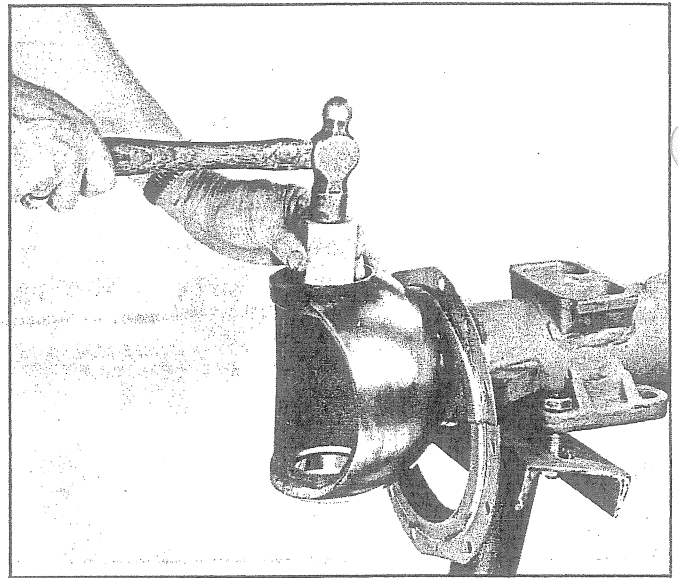
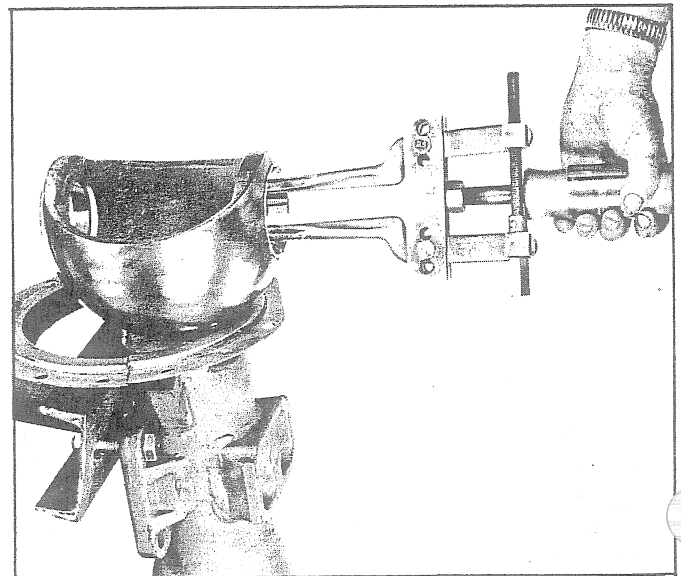

Fig. 88 - Removing the Oil Retainer
Fig. 89 - Removing Bearing Cup
19. If trunnion bearing cups require replacement, drive the upper trunnion oil retainer out of bearing bore as shown in Fig. 88. Remove the bearing cups as shown in Fig. 89.